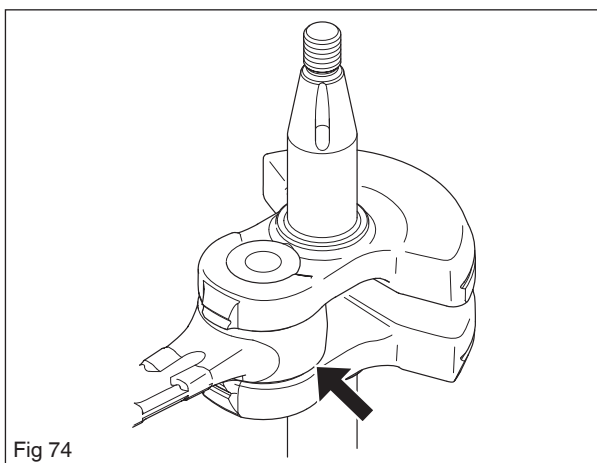

Fig 74
1. That the big-end bearing does not have any radial play. Axial play is permitted. See figures 74 and 75.